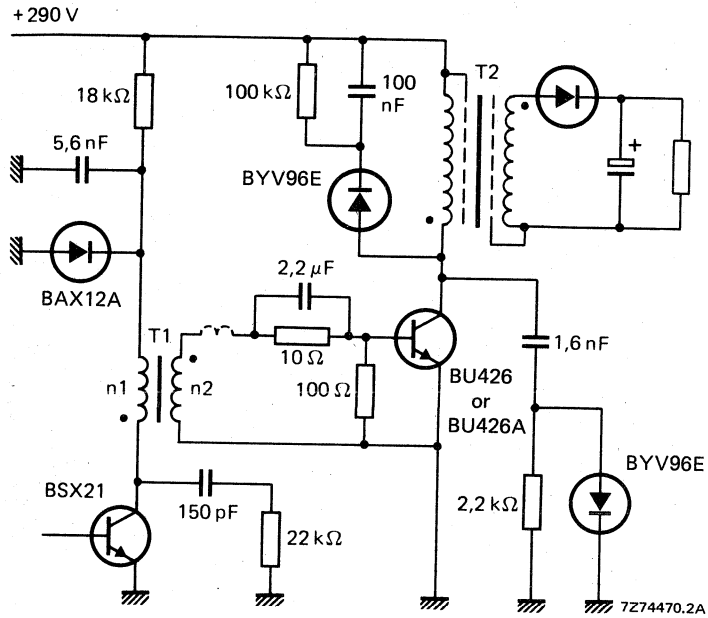

Fig. 17 Practical output circuit of a flyback SMPS of BU426 or BU426A.
All these variables influence the collector dissipation, so that a simple presentation of the design information is only possible if the information is restricted to the main application area of the relevant transistor type. Therefore, as the BU426 or BU426A will mainly be used in flyback converters and the BU433 in forward SMPS, the information of Figs 17 up to 22 is based on these applications:
To ensure thermal stability minimum value of  $T_{amb}$  in this equation is 40 °C. As indicated, the BU433 will mainly be used in (non-isolated) forward converters, where the turn-off losses are limited by the maximum collector emitter voltage ( $\approx 300-350$  V). The rate-of-rise of the voltage during turn-off must be below 1000 V/ $\mu$ s. Application of this transistor in low-power flyback converters is also possible, provided that the rate-of-rise is limited to 500 V/ $\mu$ s. For the BU426(A) a rate-of-rise of 1000 V/ $\mu$ s is permissible. Practical SMPS output circuits for an output power in the order of 180 W are given in Figs 17 and 20. At a collector current of 2,5 A and a base current of 0,25 A in these circuits the following turn-off times can be expected.